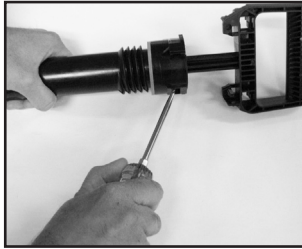
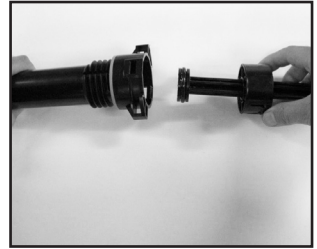

Figure 2
Figure 3
2. To disassemble pump cap from pump cylinder, push tabs in on both sides of the pump cylinder that lock the cylinder to the cap using a flat screwdriver (See Figure 2) and pry up pump cap. After the tabs are disengaged, the pump cap and handle can be removed from the pump cylinder. (See Figure 3).